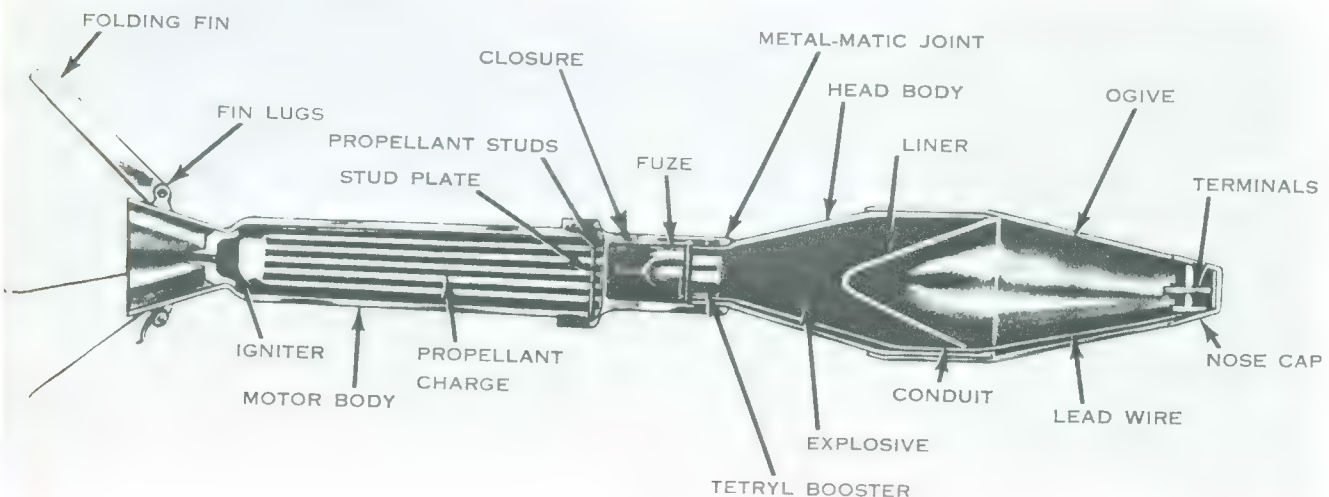

Figure 10. The 66-mm HEAT rocket.
Ammunition for the M72 is issued as a complete rocket (fig. 10). The propelling charge is not adjustable and the rocket comes packed in the launcher as a unit. The rocket consists of a rocket head, a fuze, and a rocket motor which contains the propellant and its igniter. A nozzle and a fin assembly are rigidly attached to the rear of the motor. The fuze closure serves also as the coupling for the rocket head and motor. Ammunition for the M72 is classified according to the type rocket head and is designated high explosive antitank (HEAT). Each rocket is 20 inches long, weighs approximately 2¼ pounds, has a muzzle velocity of about 475 feet per second, and has an approximate maximum range of 1,000 meters.
a. High Explosive Antitank (HEAT) Rocket. The 66-mm HEAT warhead M18 (fig. 10) consists of a tapered, thin-gauge steel body. It is cylindrically shaped and contains a shaped charge composed of two-thirds of a pound of octol explosive held in place by a thin copper cone. When detonated, the force
a. Nose Cap Assembly. The nose cap assembly (fig. 10) contains the piezo-electric element which is crushed on impact with the target. When the
e. Fin Assembly. Six holding fin attachment lugs are attached as an integral part of the motor. These fins are actuated by springs. As the rocket clears the launcher, the fins spring out and stabilize the rocket in flight (fig. 10).